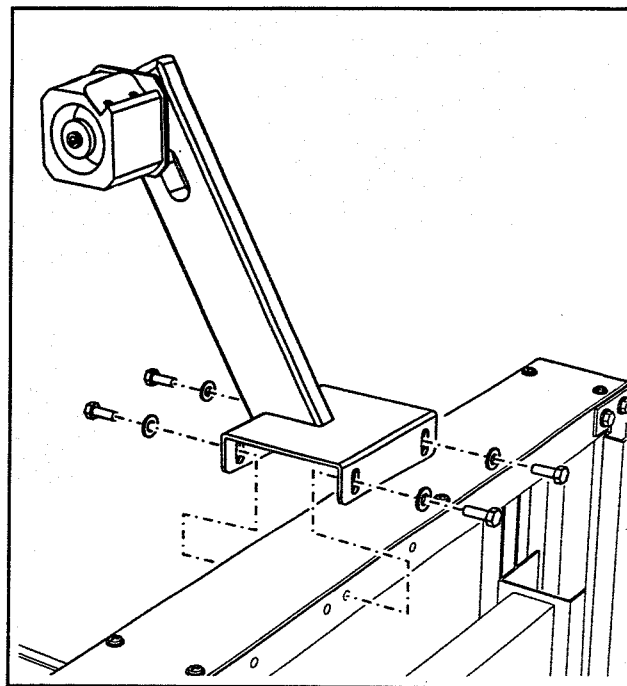

Figure 2-1 – Upper Tape Drum Bracket
2. Install the upper tape drum bracket on the top crossbar, as shown in Figure 2-1.